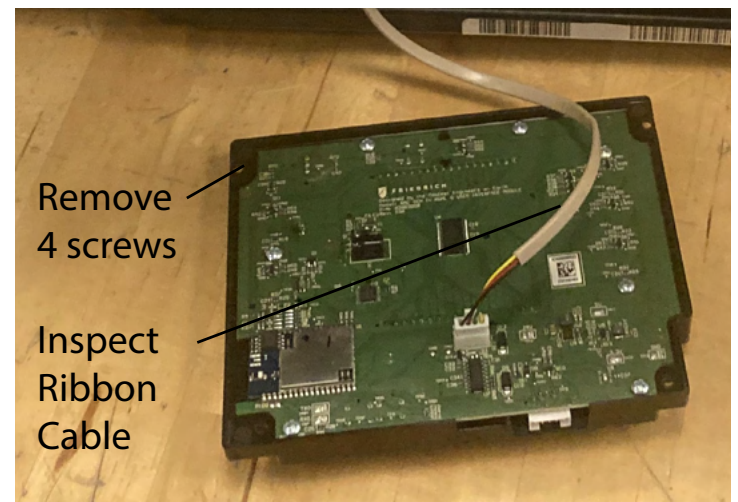

Figure 717
3. Remove the 4 corner screws from the rear of the user interface. Refer to Figure 717.